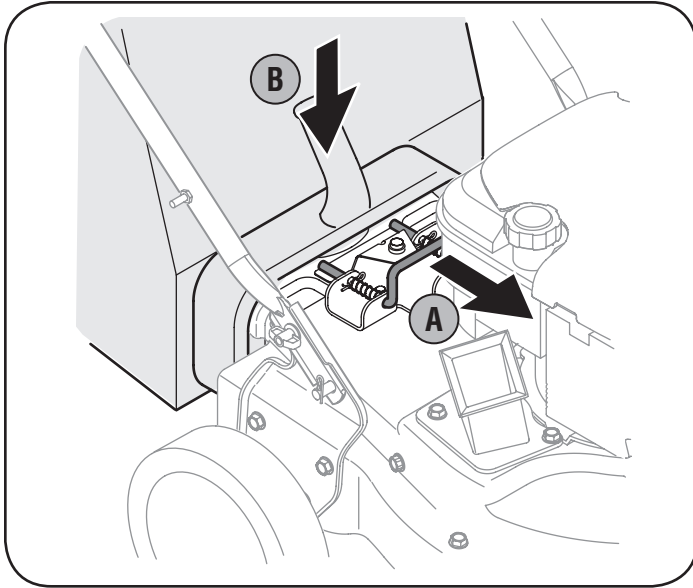

Figure 5
2. Slip bag over the rim of the discharge opening and release locking rod to secure bag in place. See Figure 5.